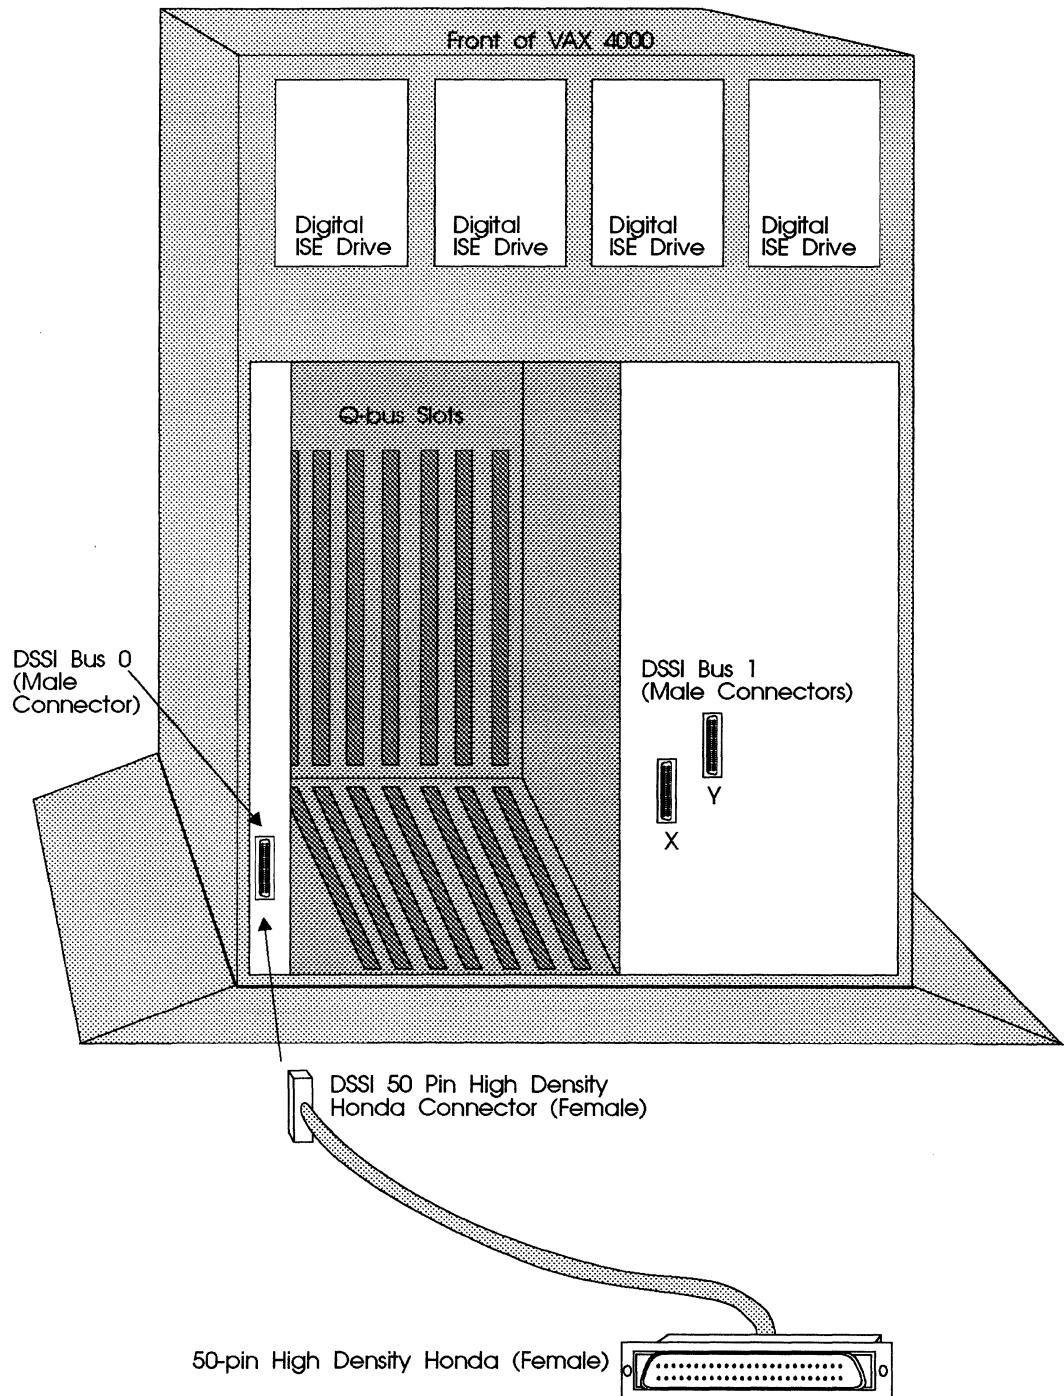

Figure 7-4: Host Computer DSSI connection
- 11 Connect the other end of the external DSSI cable to the VAX DSSI port; see Figure 7-4.